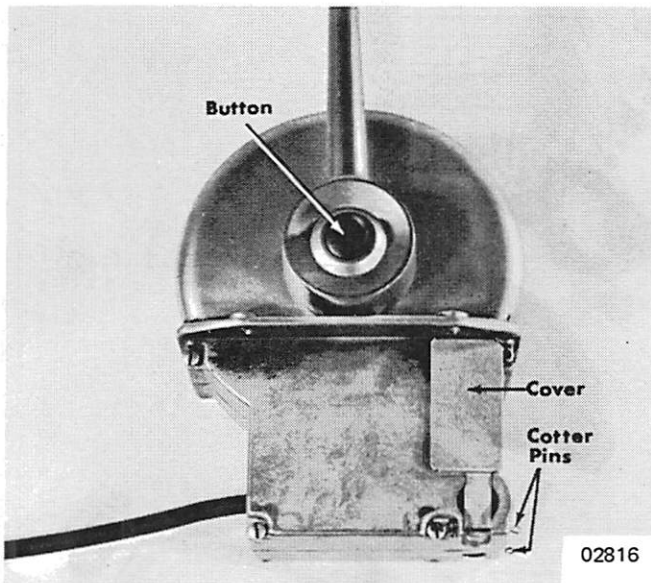

Figure 2. Control Button Installed
1. Remove cotter pins and covers. (Figure 2)
4. Reinstall covers and cotter pins in control housing. (Figure 2)